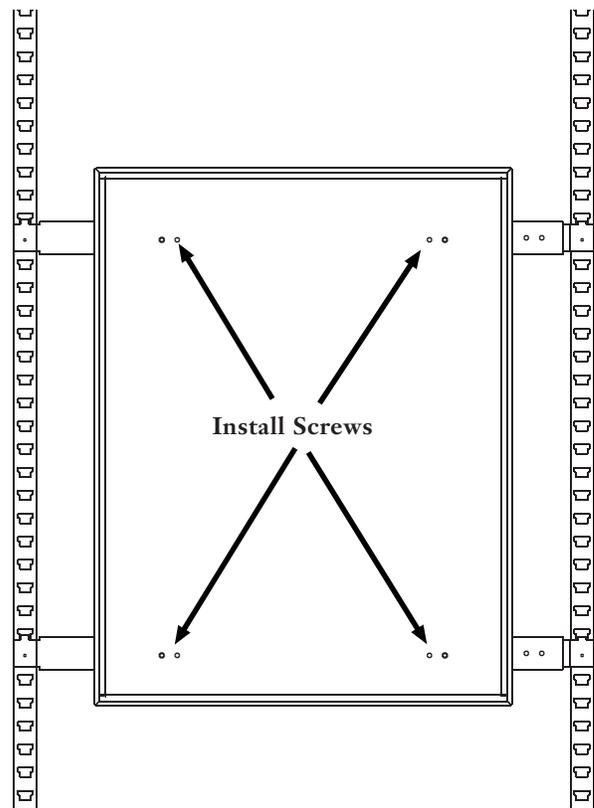

Figure 5
5.4 Install and tighten four #1/4-20 screws from the hardware kit to secure unit to mounting brackets (Figure 5).